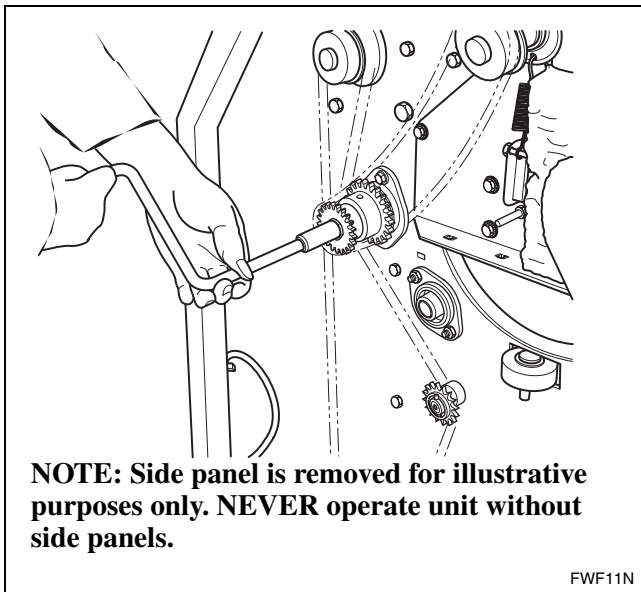

Figure 9
2. Turn the crank clockwise to rotate the cylinder. Refer to *Figure 9*.